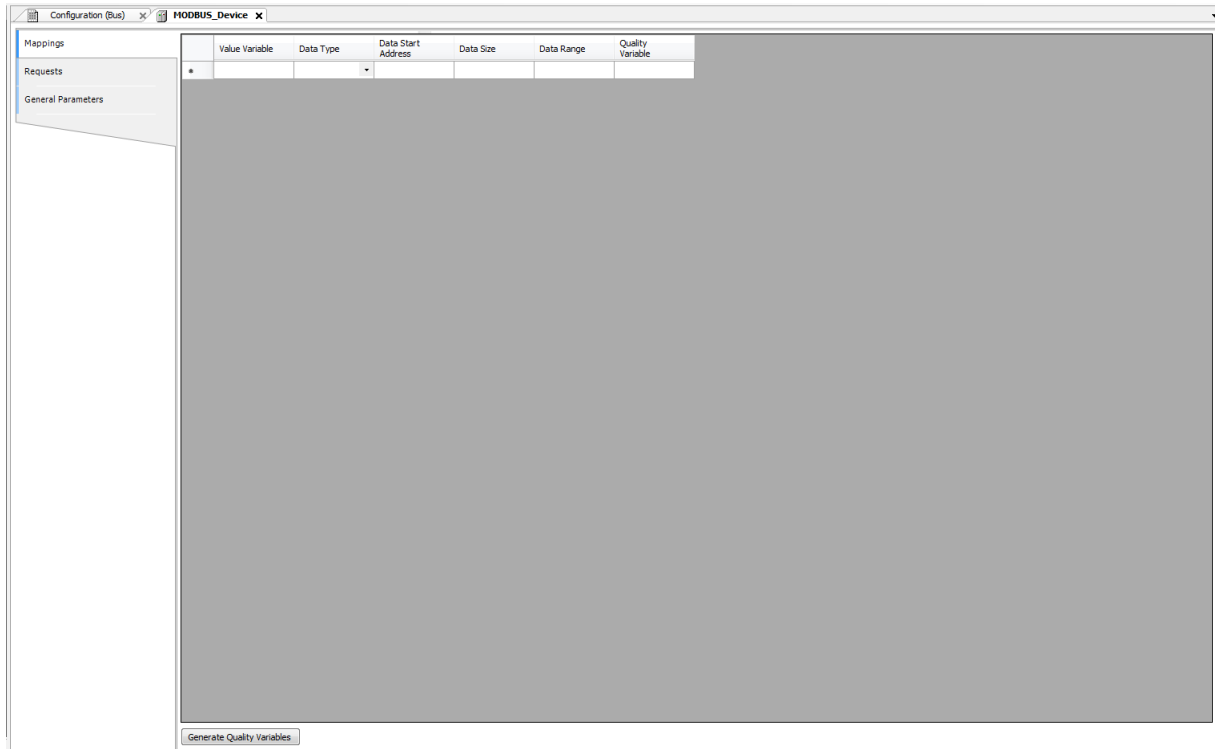

Figure 48: MODBUS Data Mappings Screen
- Add and configure the MODBUS mappings on Mappings tab as Figure 48, specifying the variable name, data type, and the data initial address, the data size and range are filled automatically.